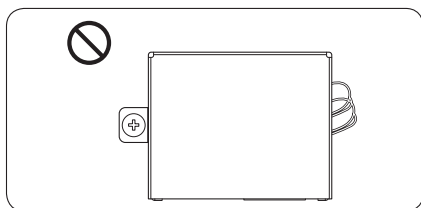

Figure 11
2. Unfasten the screw on the left side of the junction box located at the front bottom right of the dishwasher, and then open the junction box cover. (Figure 11)